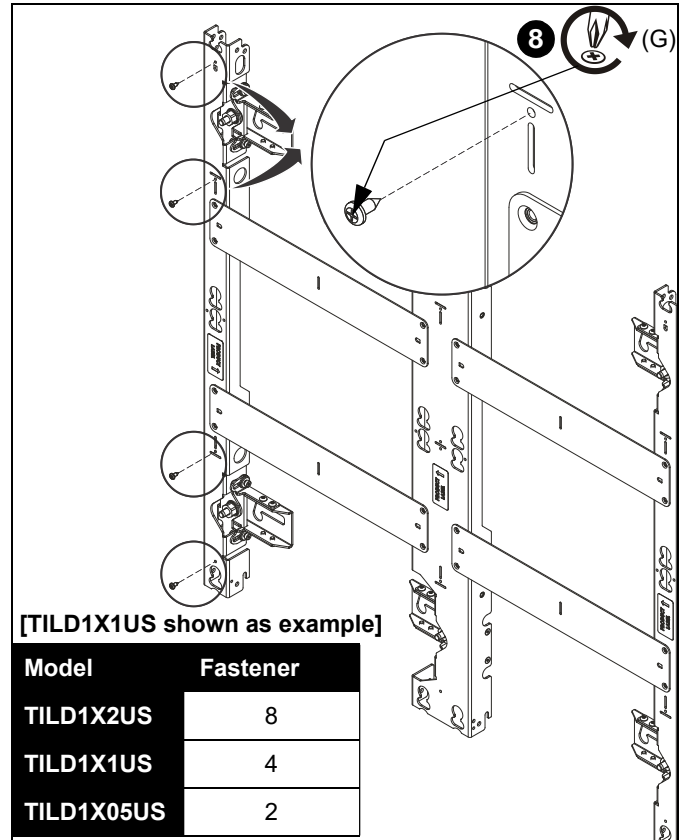

Figure 17
8. Install one #10 x 1/2" Phillips tapping screw (G) into left upper LED mounting button hole for each LED screen space. Install the tapping screws ONLY on the furthest left column of mounts. (See Figure 17)